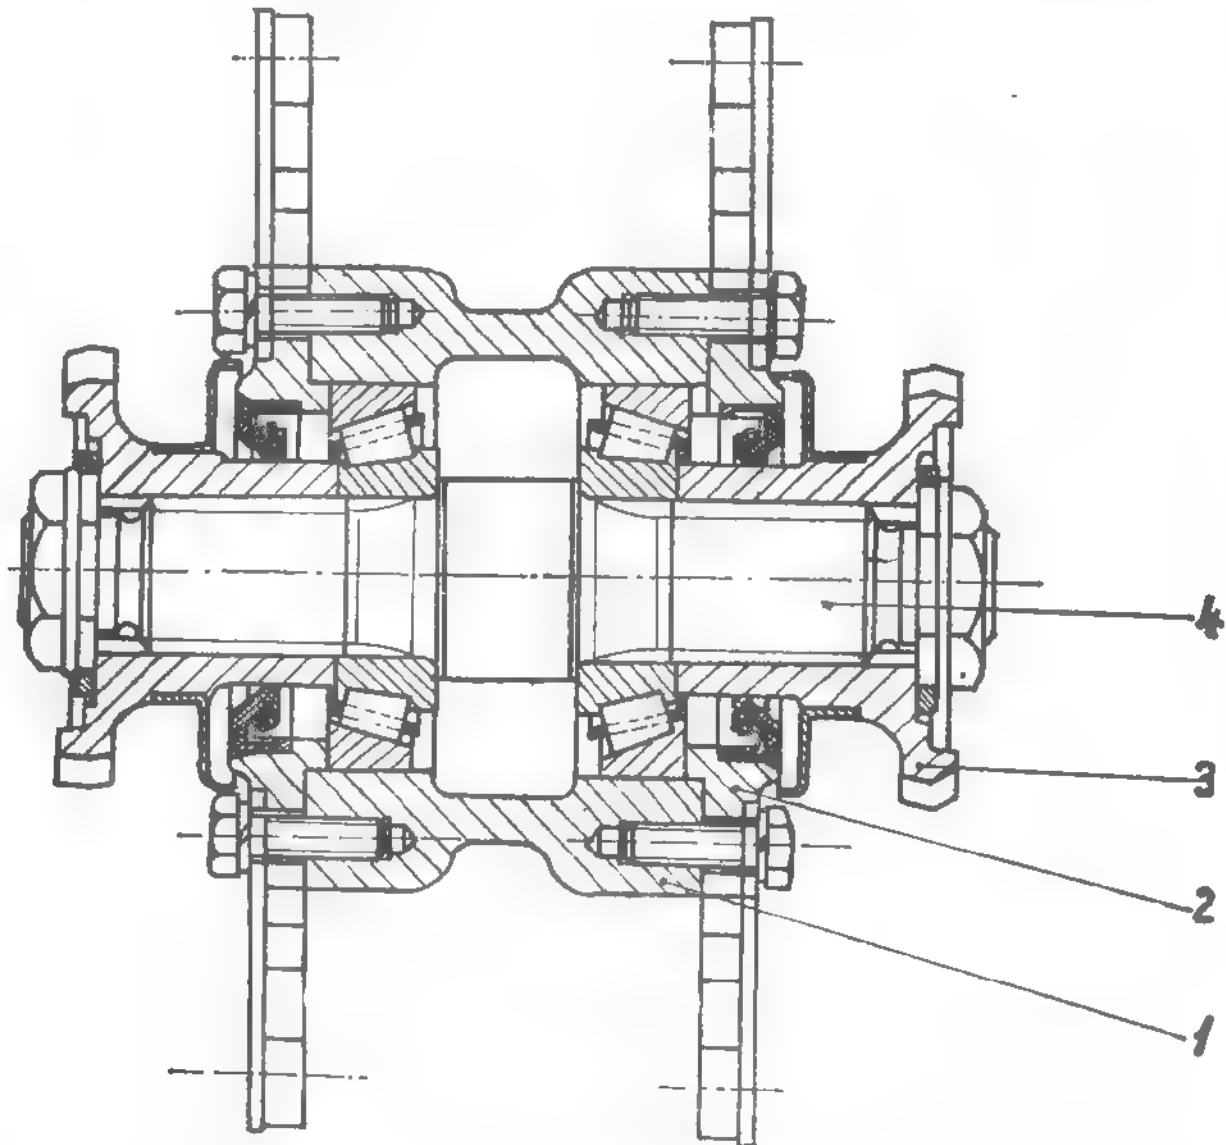

Fig. 4. 139. PROPELLER SHAFT INTERMEDIATE BRACKET
- The driving cardan shaft, connecting gearbox with intermediate bearing (see Fig. 4, 139).